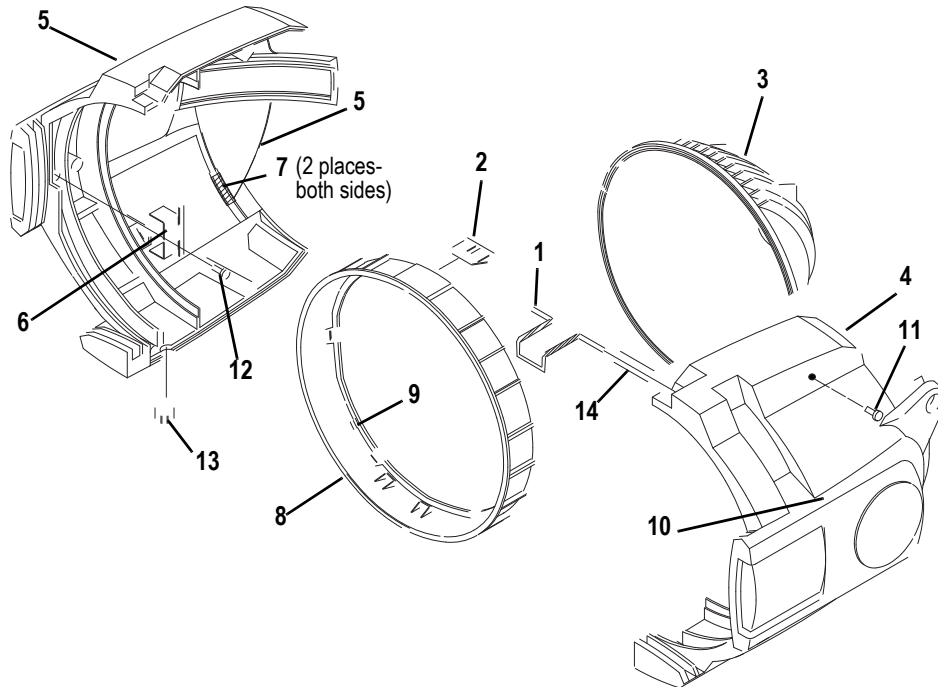
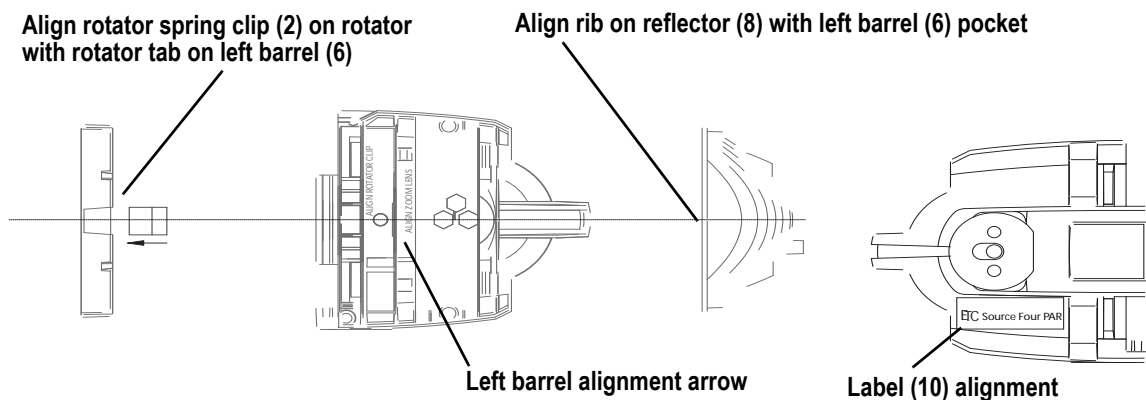

Figure 4
Figure 5
- Step 1: Install the reflector mount silicon pads (7) in the left barrel assembly (6). Install the pads in two places on both sides. See Figure 4.
- Step 2: Install the lens stop (9) and rotator spring clip (2) into the lens rotator (8). Install the lens rotator into the base rivet assembly (5).
- Step 3: Install the rotator pressure clip (6) into the left barrel (6) and attach using screw (12).
- Step 4: Install the gel retainer clip (1) and the spring (14) into the right barrel (4).
- Step 5: Install the reflector (3) into the left barrel (6). Align the rib on the reflector with the rivet assembly pocket as shown in Figure 5.
- Step 6: Attach the right barrel (4) to the left barrel (6) using three screws (11). Hand tighten only (2.5 newton meters).
- Step 7: Check for ease of movement of the gel clip retainer (1). The clip should latch into the left barrel in the down position and be free of binding.
- Step 8: Check for smooth rotation of the lens rotator (8).
- Step 9: Snap the focus knob plug (13) into the bottom of the luminaire.
- Step 10: Attach label (10) onto the left barrel as shown in Figure 5.